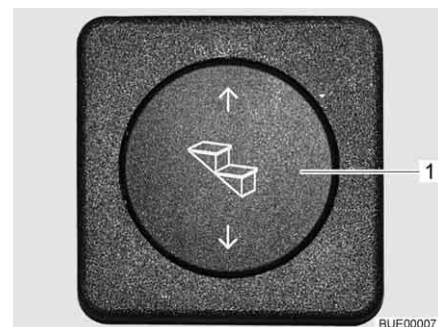

Fig. 10 Operating button for entrance step
- Press the rocker button (Fig. 10,1) down and hold it pressed (at least 3 seconds) until the entrance step has extended completely.
- Press the rocker button (Fig. 10,1) up until the entrance step has retracted completely.